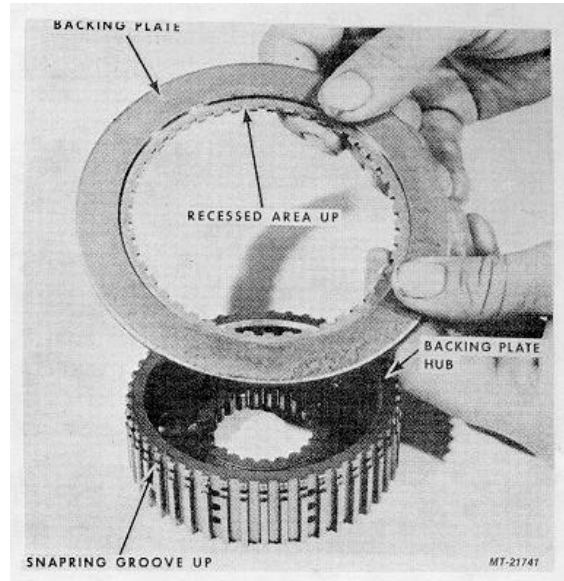

Fig. 49.
12. Install Backing Plate on Hub with the recessed area of the Backing Plate up, Fig. 49.